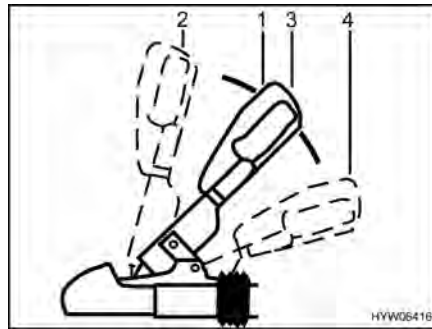

Fig. 3 WS 3000 D stabiliser
- Pull the coupling handle (Fig. 3,1) upwards into position "Open" (Fig. 3,2). Stabiliser is open.
- Set down the open stabiliser on the caravan ball of the towing vehicle and release the coupling handle. The handle glides automatically back to its initial position (Fig. 3,3).
- Activate the stabilising mechanism. To do this, press the coupling handle downwards (Fig. 3,4) from the closed position (Fig. 3,3) to its stop limit.
To deactivate the stabilisation mechanism, e.g. for manoeuvring, pull the coupling handle (Fig. 3,1) slowly upward to the closed position (Fig. 3,3).